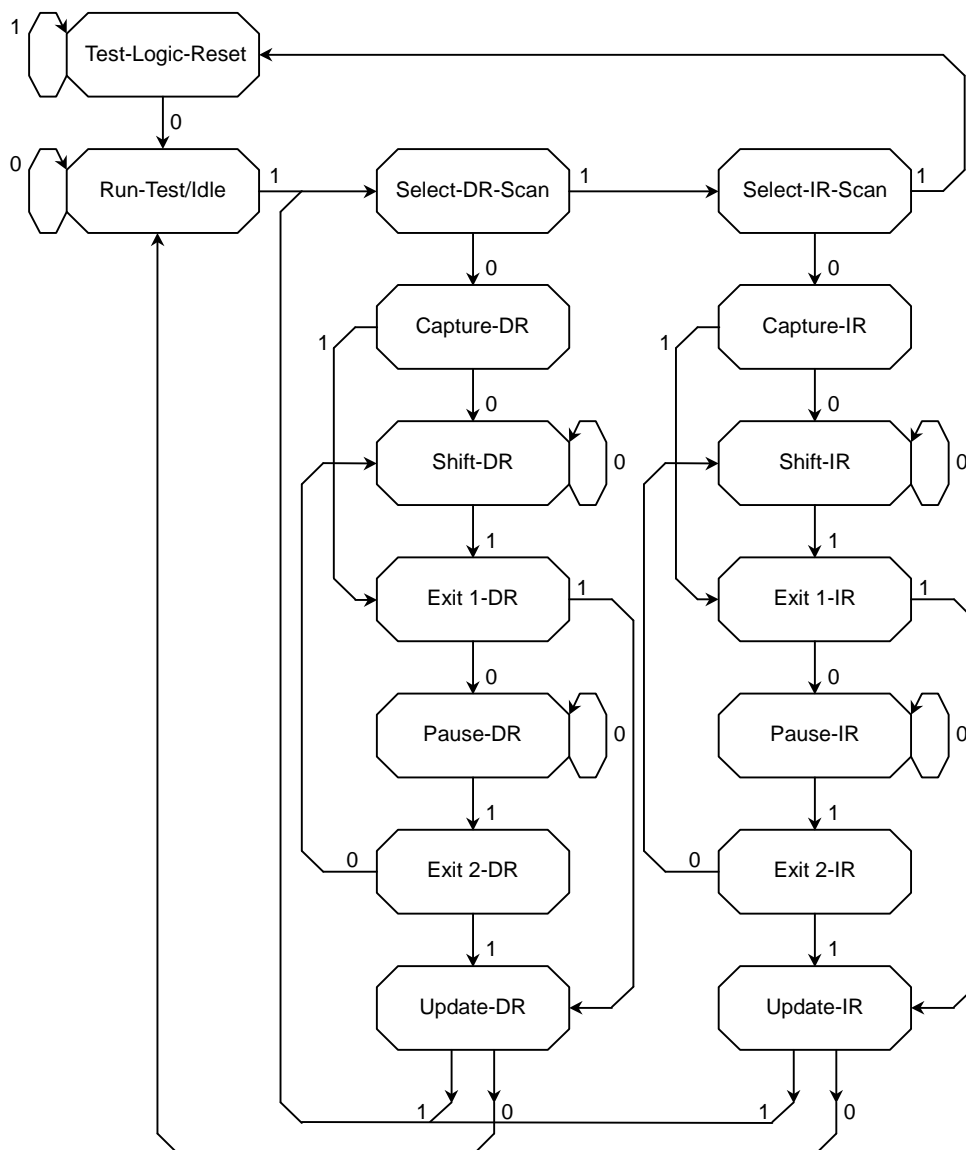

Figure 6.3.5 TAP Controller State Diagram
The state transition diagram of the TAP controller is shown in Figure 6.3.5. Each arrow between states is labeled with a 1 or 0, indicating the logic value of TMS that must be set up before the rising edge of TCK to cause the transition.
The following paragraphs describe each of the controller states. The left vertical column in Figure 6.3.5 is the data column, and the right vertical column is the instruction column. The data column and instruction column reference data register (DR) and instruction register (IR), respectively.